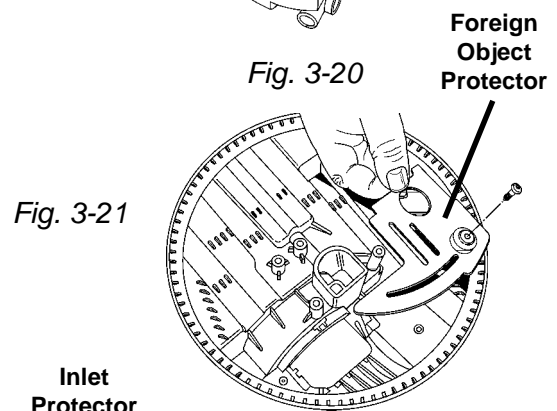

Fig. 3-21
3. Remove the screw securing the foreign objects protector to the sump base and remove the protector. (Fig. 3-21)